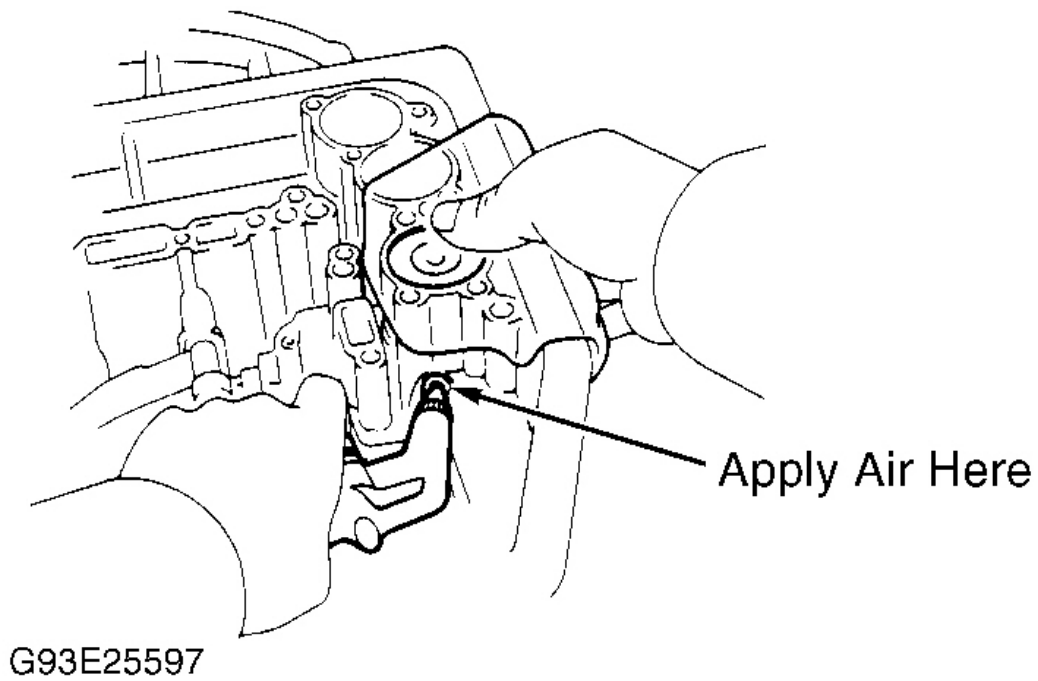
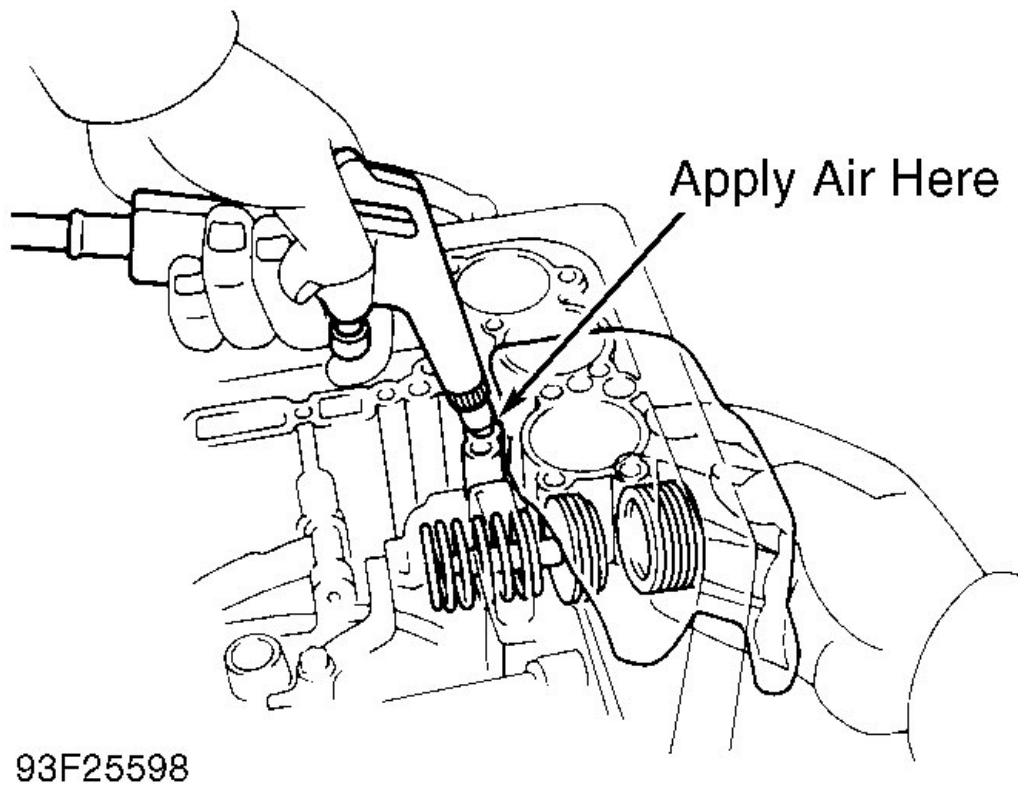

Fig. 13: Removing 2nd Brake Accumulator Piston & Spring
Fig. 14: Removing 2nd Coast Brake Cover
5. Apply 14 psi (1 kg/cm²) of compressed air to oil passage to remove 2nd brake accumulator piston and spring. See **Fig. 13**. Using Expander (09351-32050), remove 2nd coast brake piston snap ring. Apply 14 psi (1 kg/cm²) of compressed air to oil passage to remove 2nd coast brake cover. Remove 2nd coast brake piston and spring. See **Fig. 14**.